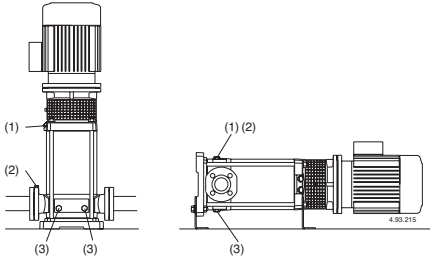

Fig.4 (1) Filling and air vent
When the pump is located above the water level (suction lift operation, **fig. 3A**) or with a positive suction head which is too low (less than 1 m) to open the non-return valve, fill the suction pipe and the pump through the priming hole (1) (**fig. 4**).
(2) Suction side air vent
(3) Draining
When the liquid level on the suction side is above the pump (inflow under positive suction head, fig. 3B), fill the pump by slowly and completely opening the inflow gate valve while keeping the delivery gate valve and air vent holes (1), (2) (fig.4) open to release the air.
Close the air vent holes (1), (2) (fig.4), for MXV-B, MXV(L) 25-32-40 e MXV(L)4 25-32-40 Tighten the needle screw (14.17) in the drainage plug (14.12) (fig. 4b) and close the air vent hole (14.04).
suction pipe couplings are perfectly sealed and tighten the air vent plug (2) and the draining plugs (3) on the suction side (fig.4).
Or, after draining, perform the washing operation, inserting clean water (at least 40 litres) into the filling hole (1) on the delivery side and allowing it to come out of the draining hole (3) on the suction side (**fig.4**).
Before dismantling, disconnect the power cable from the terminal box, close the gate valves in the suction and delivery pipes and empty the pump casing (**fig. 4**).